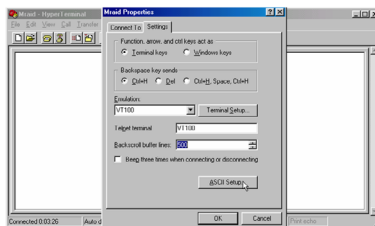

Figure 3.2-7
Step 7. Configure the "Connect To" setting. (Figure 3.2-7)